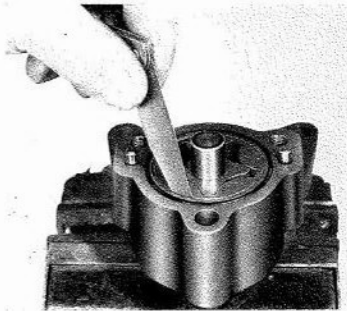

Fig. P.7.
3. Check the clearance between the driven rotor and the pump body, see Fig. P.7. If the clearance exceeds 0.010 in., renew the pump.